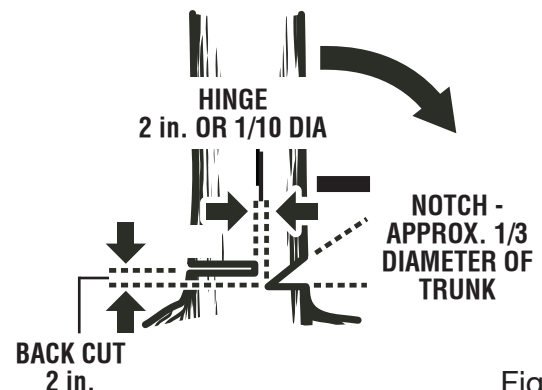

Fig. 13
- **Notched Undercut.** Cut a notch about 1/3 the diameter of the tree, perpendicular to the direction of fall. Make the cuts of the notch so they intersect at a right angle to the line of fall. This notch should be cleaned out to leave a straight line. To keep the weight of the wood off the saw, always make the lower cut of the notch before the upper cut. *See Figure 13.*
- **Felling Backcut.** The backcut is always made level and horizontal, and at a minimum of 2 in. above the horizontal cut of the notch. See *Figures 13 - 14*.
- Never cut through to the notch. Always leave a band of wood between the notch and backcut (approximately 2 in. or 1/10 the diameter of the tree). This is called “hinge” or “hingewood.” It controls the fall of the tree and prevents slipping or twisting or shoot-back of the tree off the stump. See *Figures 13 - 14*.